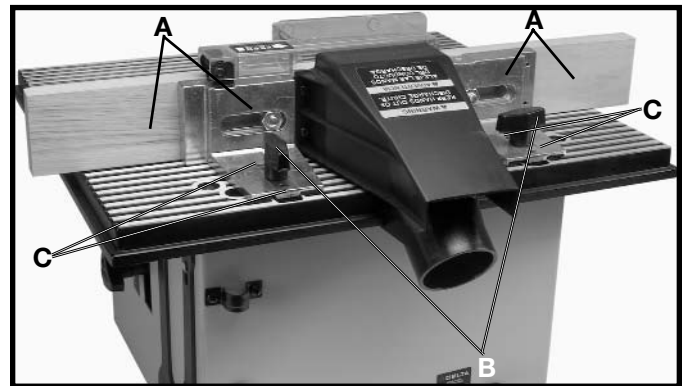

Fig. 18
Each half of the two-piece fence assembly (A) Fig. 18, can be moved independently. To adjust each fence half, loosen lock knob (B) and move fence half (A) to the desired position depending on the work being performed. Then tighten lock knob (B).
To check and adjust, move both fence halves in or out until they are in line with each other. Using a straight edge check to see if both fence halves are parallel with each other the complete length of the fences. If an adjustment is necessary, loosen four socket head cap screws (C) Fig. 18, located on the fence bracket casting directly in front of and in back of lock knobs (B) Fig. 18, and adjust the fences accordingly. Then tighten the four screws.